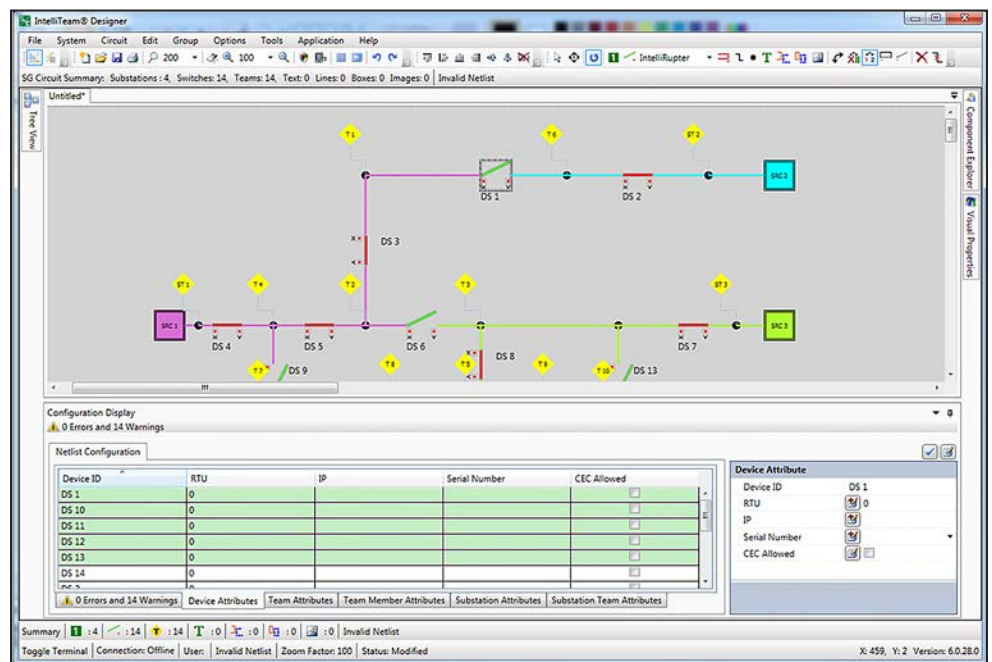

Figure 64. Shift click to highlight a range of devices.
STEP 5. Highlight the range of devices to automatically enter a value for. Click on the first device, and shift-click the last device to establish a range. See Figure 64. To enter a group of individual devices, control-click the devices or use control-A to select all lines. See Figure 65 on page 74.